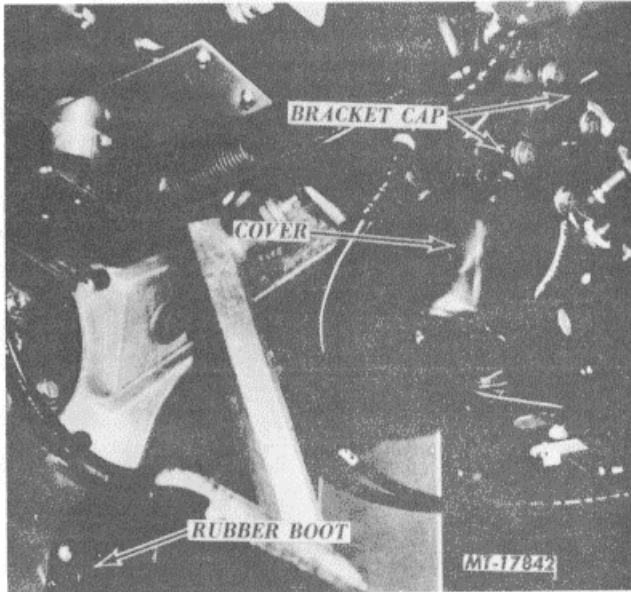

Fig. 6 Steering Column Removal
7. Remove the lower bracket cap, and cover over universal joint from steering column, refer to Fig. 6.